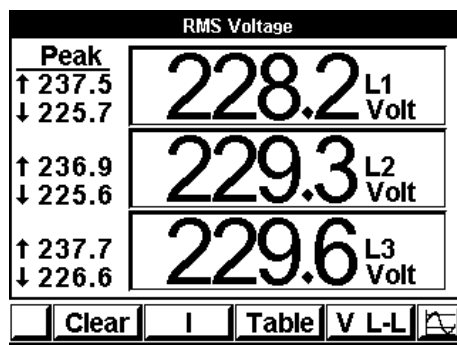

Figure 5.5. Voltage Displays
- 2 Click “Enter”, the **Active Power** screen appears (Figure 5.5).